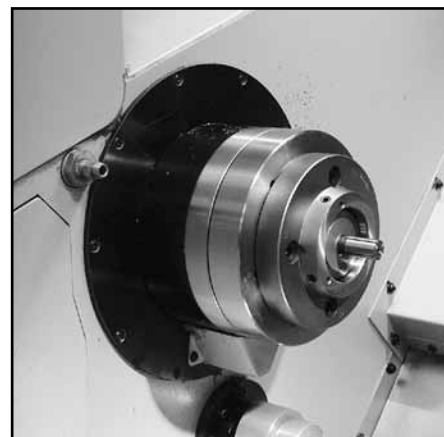

Figure 9 – Draw Plug
10. Place the expanding collet **Draw Plug** (Figure 9) through the nose of the expanding collet and screw it into the draw collet until it is flush with the face of the collet.